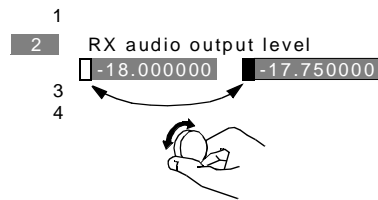

Figure 22
- 7 Rotate the CURSOR CONTROL knob to move the cursor and select the **Upper Limit** value field (see figure 22).